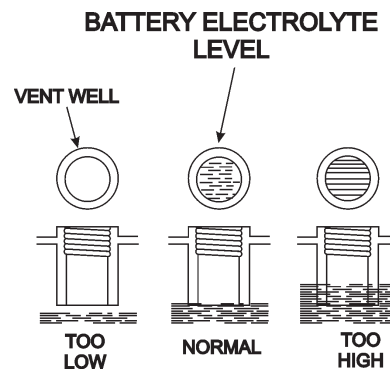

Figure 31. Battery Electrolyte Levels
- Check the battery regularly and make sure that each electrolyte level is to the bottom of the vent well (Figure 31). If necessary add only distilled water in a well-ventilated area.